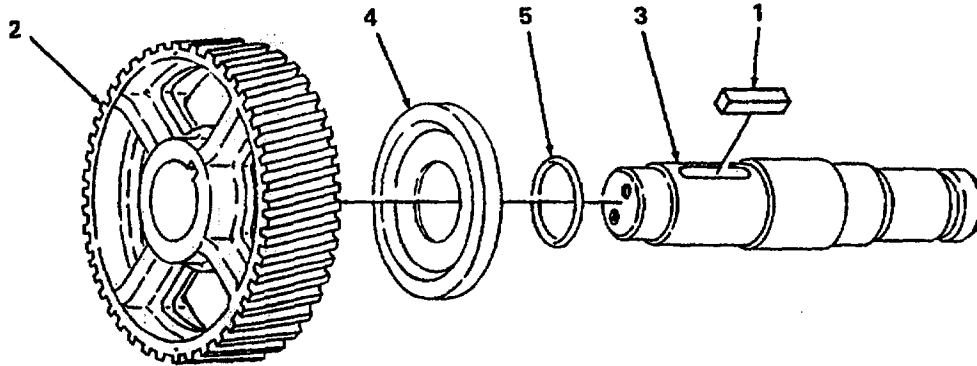

Figure 6-15. Helical Gear Removal.
- (b) If helical gear must be replaced, remove key (1, figure 6-15) and press or pull gear (2) from shaft (3).
- (c) Remove umbrella (4) and associated O-ring (5) from shaft (3).